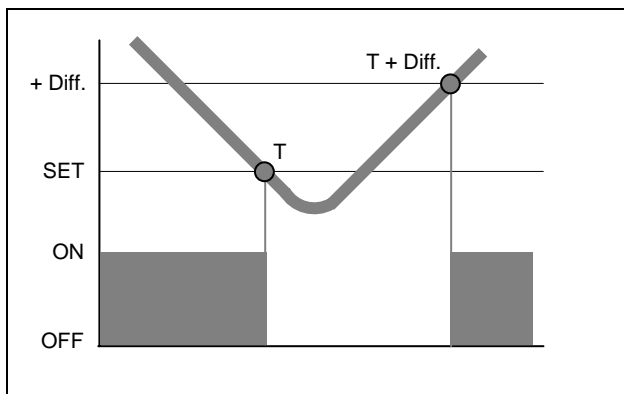

Figure 29 - OPERATING PRINCIPLE IN AmbT/ExtT MODE (COOLING)
In cooling mode (see Figure 29), the plant is on until the ambient temperature value set (T) is reached; when the ambient temperature value set (T) is reached, the plant switches off and switches on again if, subsequently, the ambient temperature value set + the differential value set (T + Diff) is reached.